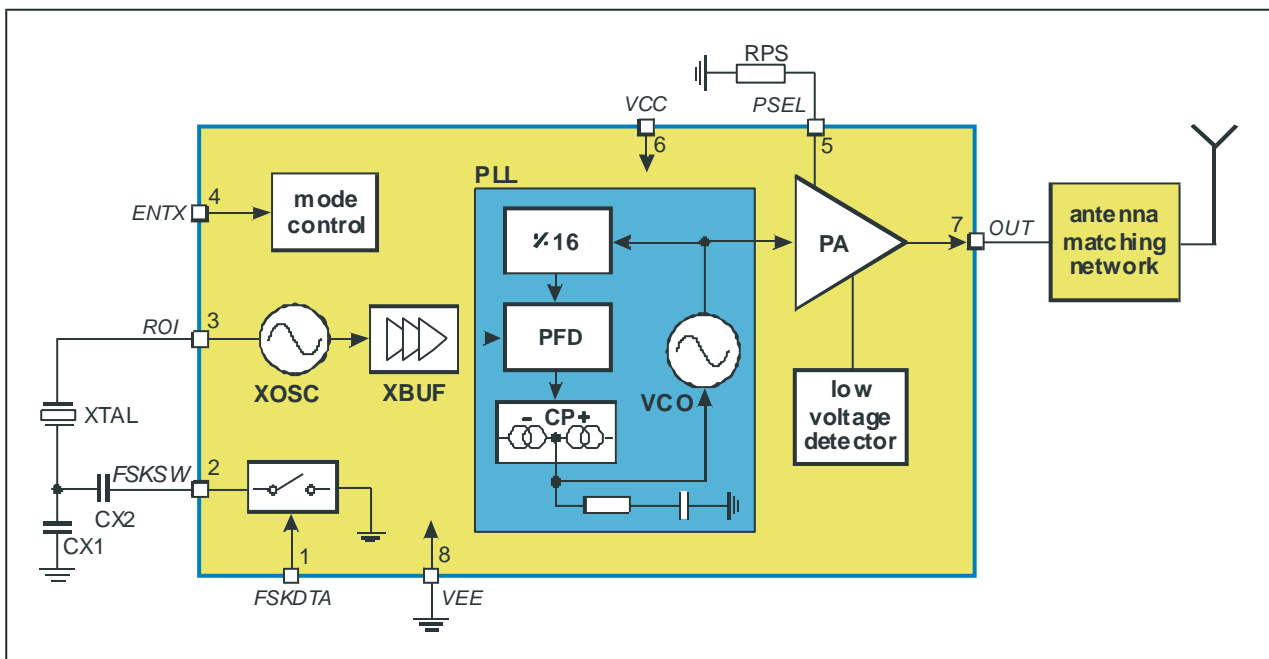

Fig. 1: Block diagram with external components
As depicted in Fig.1, the MLX72013 transmitter consists of a fully integrated voltage-controlled oscillator (VCO), a divide-by-16 divider (div16), a phase-frequency detector (PFD) and a charge pump (CP). An internal loop filter determines the dynamic behavior of the PLL and suppresses reference spurious signals. A Colpitts crystal oscillator (XOSC) is used as the reference oscillator of a phase-locked loop (PLL) synthesizer. The VCO's output signal feeds the power amplifier (PA). The RF signal power P_{out} can be adjusted in four steps from $P_{out} = -14$ dBm to +11 dBm, either by changing the value of resistor RPS or by varying the voltage V_{PS} at pin PSEL. The open-collector output (OUT) can be used either to directly drive a loop antenna or to be matched to a 50ohm load. Bandgap biasing ensures stable operation of the IC at a power supply range of 1.95 V to 5.5 V.